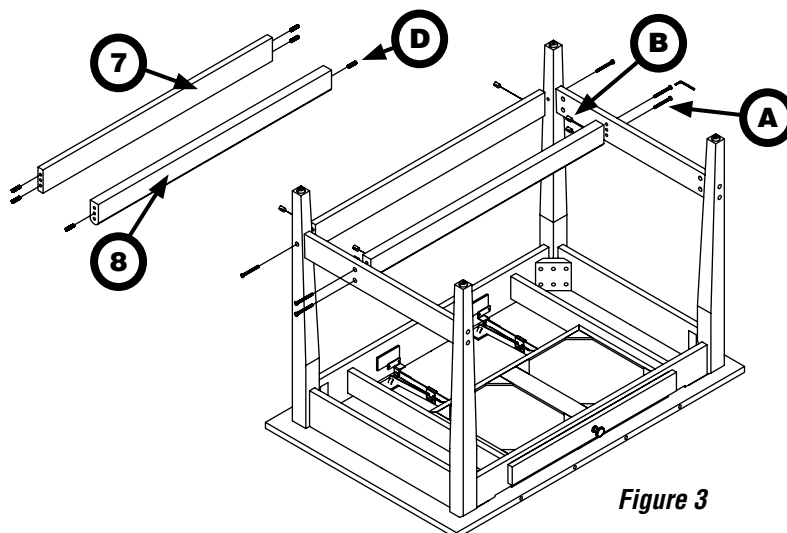

Figure 3
- 3** Connect back rail between legs using 2¼" bolts and barrel nuts as shown in *Figure 3*. Keep bolts slightly loose.